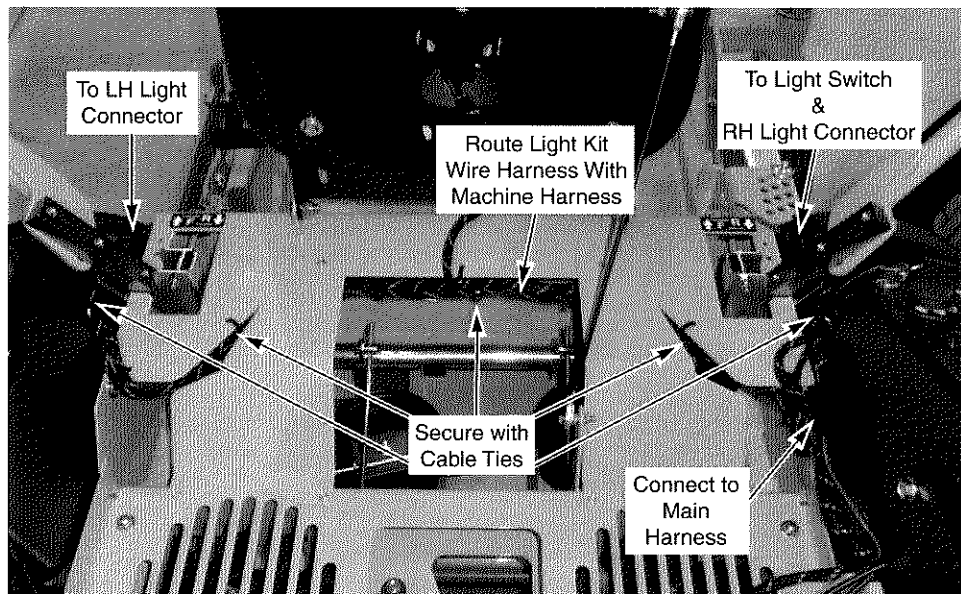

Figure 6. Route & Secure Wire Harness
7. Route and secure the wire harness away from moving or hot components that could cause damage using the cable ties provided with this kit as shown. See Figure 6.
9. Connect the light kit wire harness to the machine main wire harness. See Figure 6.